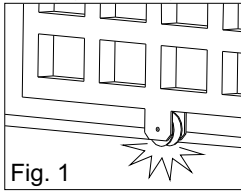
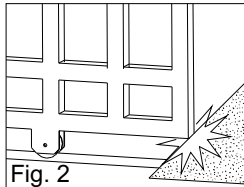

Fig. 1
Fig. 2
- that the inferior sliding guide-rail is perfectly straight and horizontal to avoid a derailment of the gate (fig. 1); furthermore it must be free of irregularities and foreign bodies which could obstruct the normal run of the gate (fig. 2 and 3).